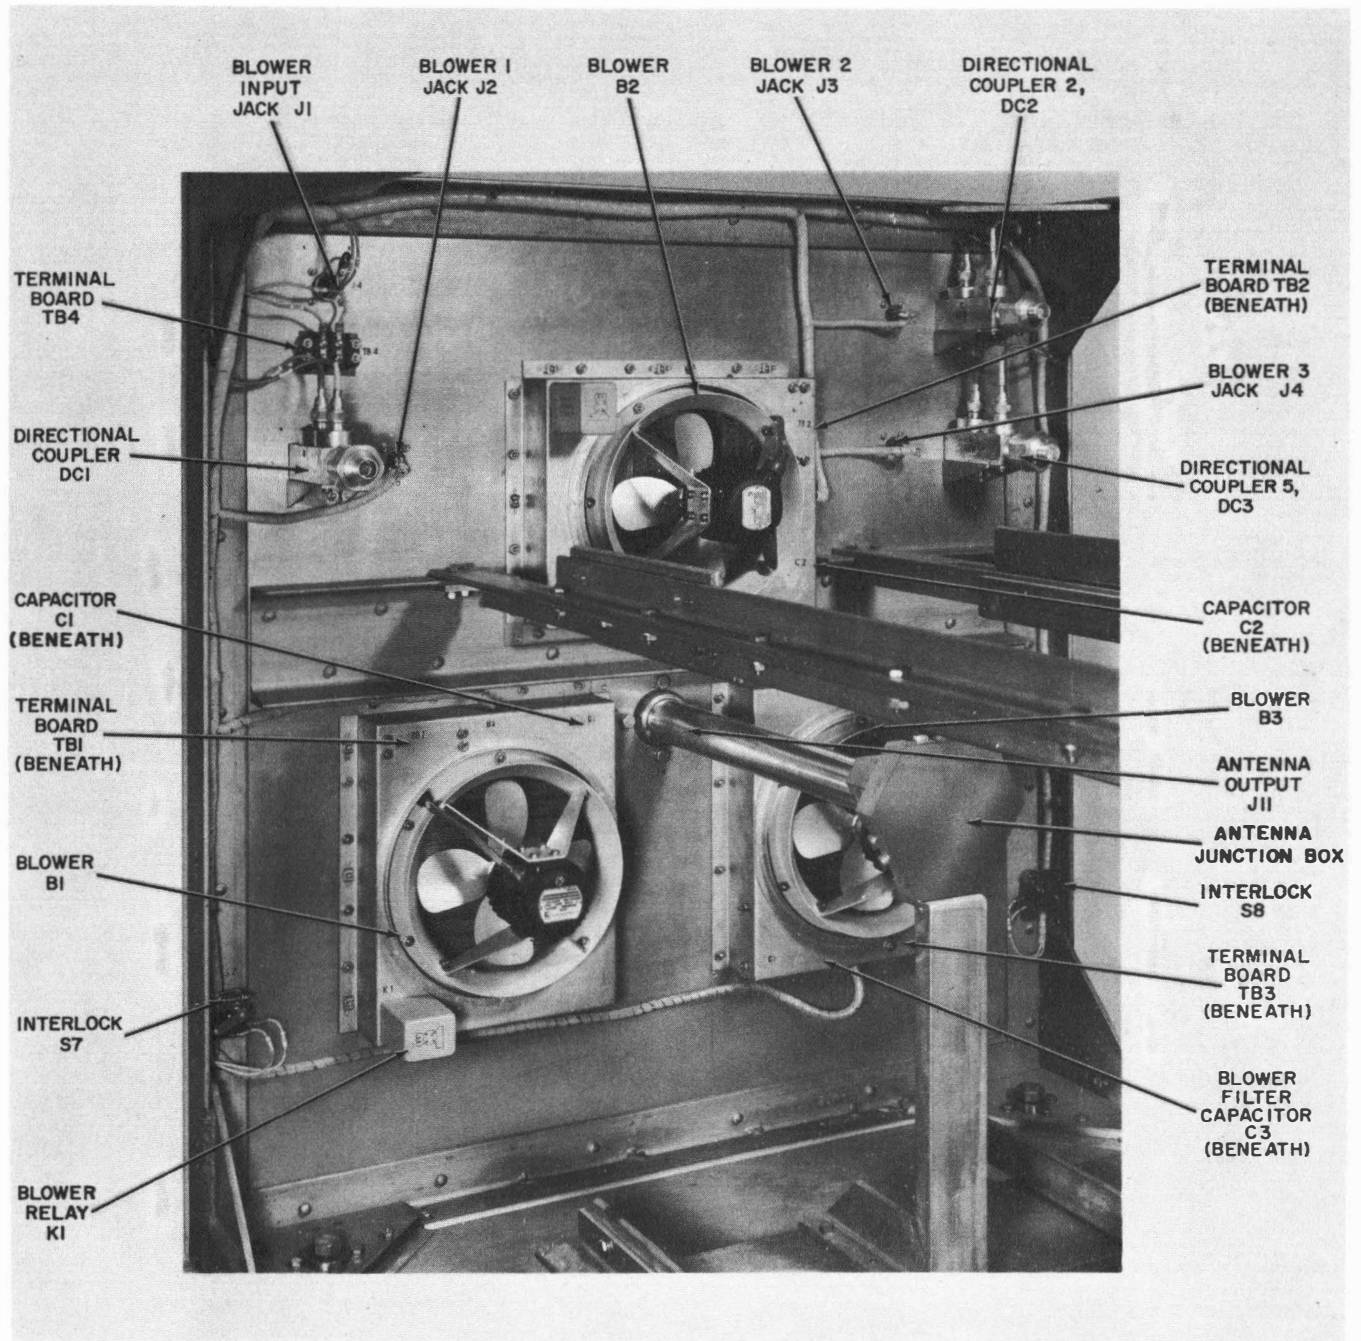

Figure 6-9. Electrical Equipment Cabinet CY-3409/FRA-49(V),
b. DIRECTIONAL COUPLERS. - Directional couplers are removed by disconnecting all cables and removing the four mounting bolts around the INPUT 75Ω jack. The input jack to the directional coupler is also used as the rear panel jack (see figure 6-9).
(14) Position the antenna coupler so that the pick-up loop projecting from the antenna coupler is to the rear of junction box and the main tuning shaft and the coupling shaft are concentric with their respective control discs on the rear of the front panel of the electrical equipment cabinet. When this alignment is complete tighten the trundle-wheel assemblies to the drum securely.
(15) Set the TUNING and COUPLING controls on the front panel to 0000 and lock.
(16) Inspect the alignment of the mounting holes on the coupling shaft in respect to the holes on the coupling disc on the front panel rear. If the holes are in alignment insert the three mounting screws and tighten. If the holes are not in alignment rotate the coupling shaft no more than 60 degrees clockwise until the next set of holes lines up. Insert mounting screws and tighten.
(17) Install air duct assembly.
(18) Unlock the COUPLING control and rotate the control clockwise to move the antenna coupler to the rear of the electrical equipment cabinet so that the main tuning shaft may be connected to the front panel.
(19) Use the method specified in step 16 and connect the main tuning shaft to the front panel control.
(20) Connect the pick-up loop to the antenna junction box (figure 6-9).
(21) The remaining connections will be self-evident.